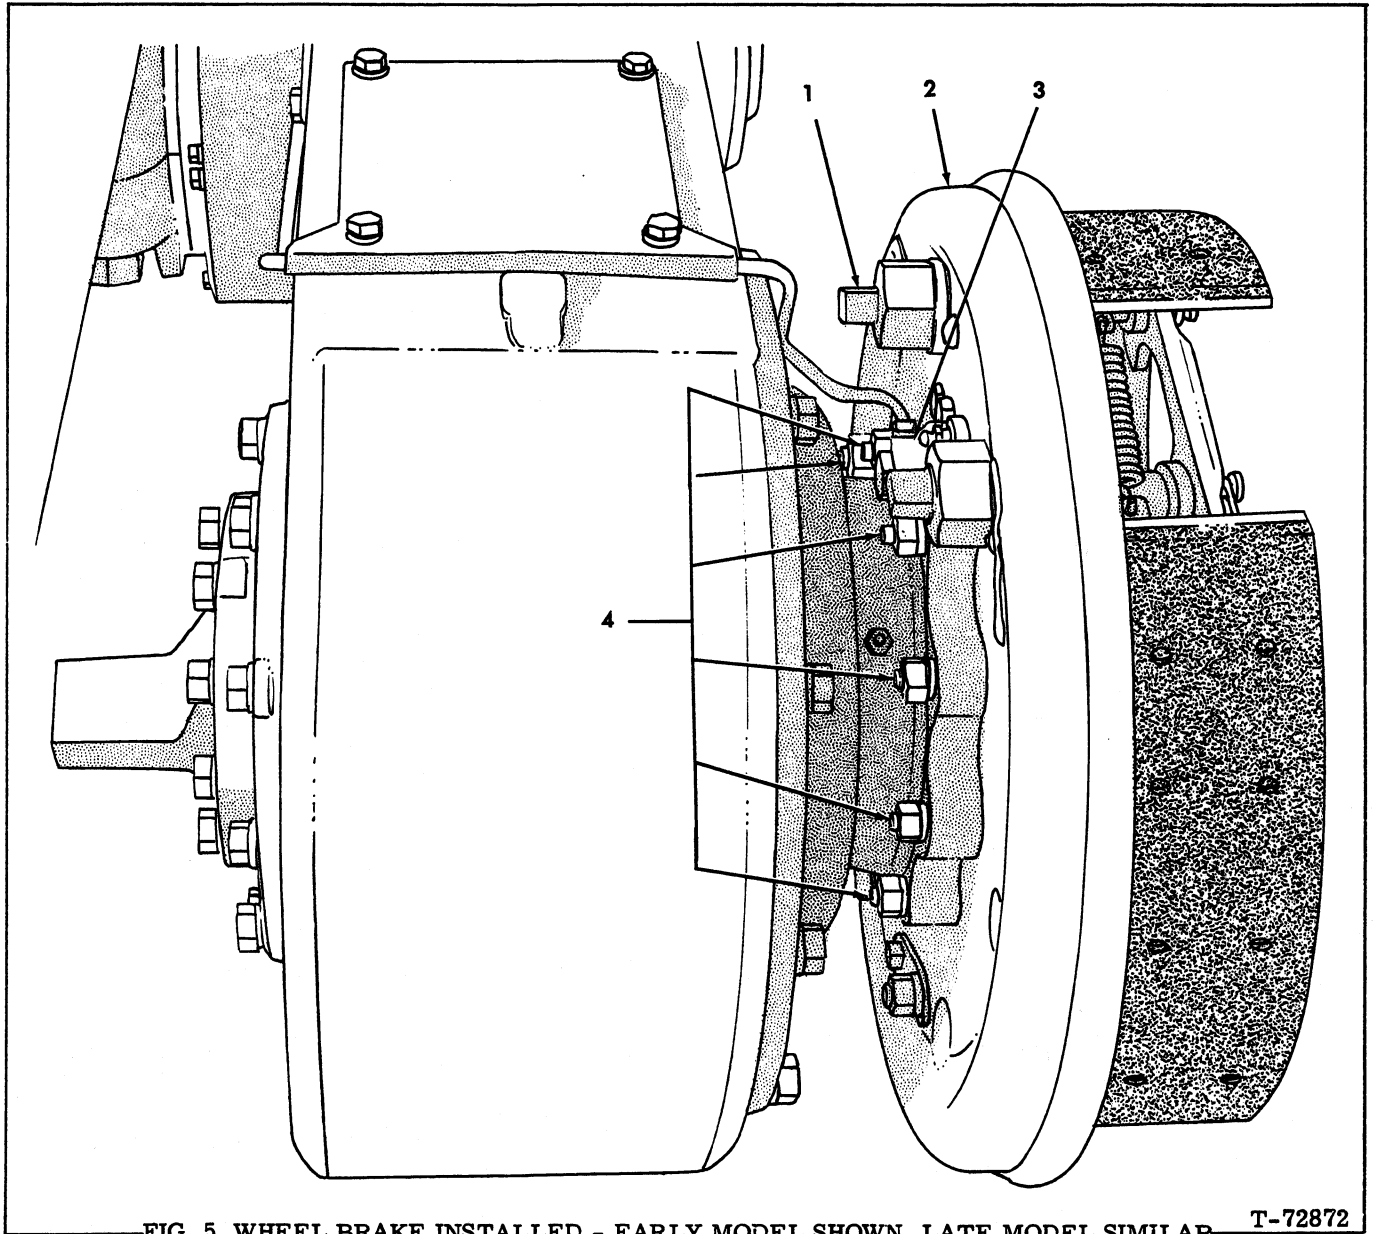

FIG. 5 WHEEL BRAKE INSTALLED - EARLY MODEL SHOWN, LATE MODEL SIMILAR
2. Refer to Fig. 5; remove high nuts (4) from back plate attaching studs (capscrews used prior to S/N 596).
3. Disconnect brake fluid line at fitting (3). Cover open end of line.